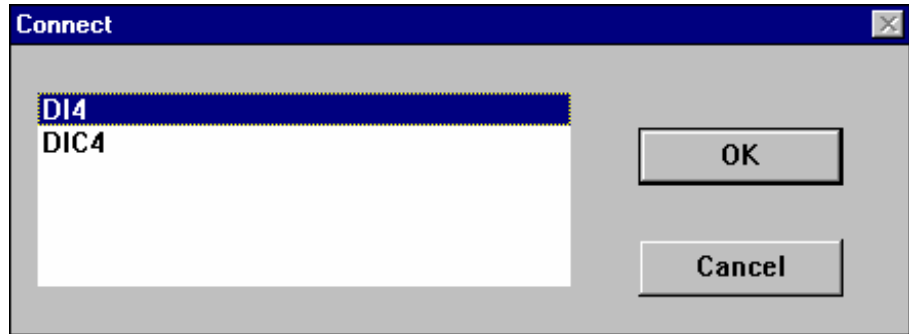

Figure 6-3: Module Connection Dialog Box Example
3. Select Connect from the module menu. The module connect dialog box appears (Figure 6-3) containing source points for the selected module.